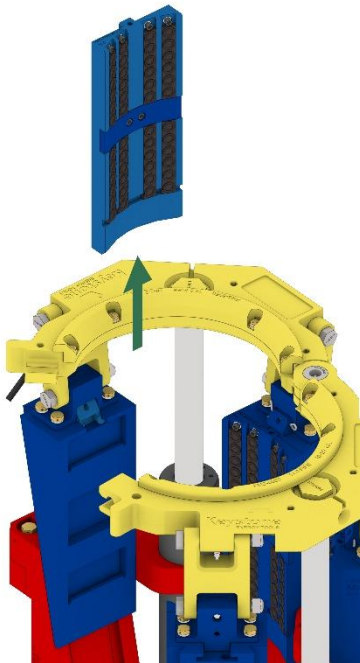

Fig. 17
**Step 5:** Use an eye bolt by screwing it into the tapped hole on top of the carrier as a lifting point when using an overhead crane for removal. The Insert carrier can be removed from the slip by lifting up and out on it. Majority of the die carriers have two tapped holes for lifting points on top. For ease of assembly and disassembly it is recommended to use the tapped hole closest to the latch. See figure 17.